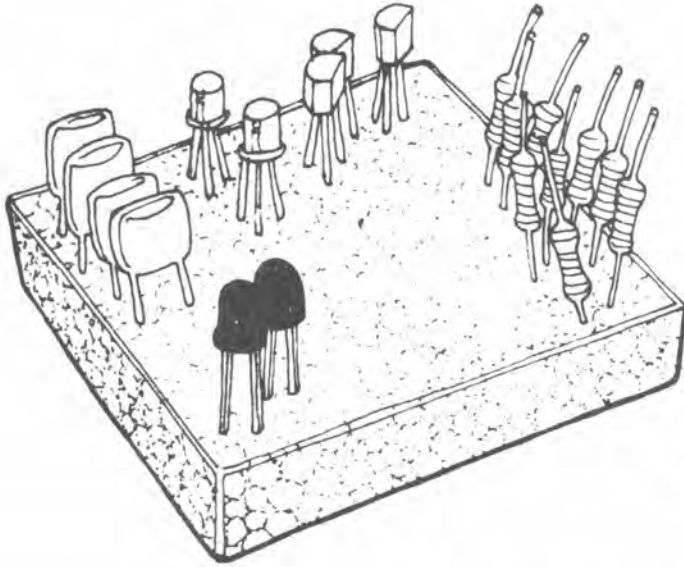

Figure 1: A block of styrene foam is the ideal way of holding components prior to insertion in the PC board.
2. Collect all the components in a dish or plate, or stick them into a block of styrene foam as shown in figure 1. This prevents them rolling off the table and getting lost or damaged.